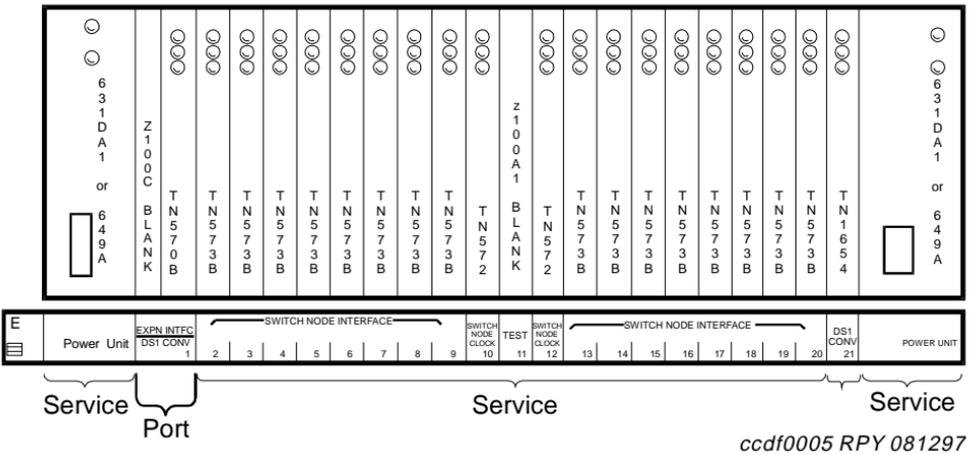

Figure 38. Switch Node Carrier (J58890SA) (Front)
The switch node carrier (SN) (J58890SA) is used in R7r only. See Figure 38 for a representative example. The SN can contain one or two switch node clocks, up to 16 SNI circuit packs, 1 or 2 DS1 converter circuit packs, one EI circuit pack, and 2 AC or DC power units.